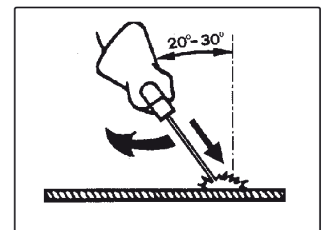

Fig.24
- 14.11 **Welding.** As soon as the arc is ignited try to maintain a distance from the workpiece equal to the diameter of the electrode in use and maintain this distance throughout the duration of the weld. Remember that the angle of the electrode as it advances should be 20 to 30° from a vertical line over the workpiece. See fig.24 below.